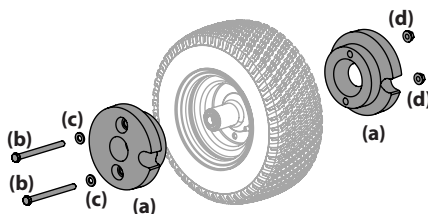

Figure 4-18
2. Remove the two 25-lb weights (a) on each tire by removing the two hex screws (b), flat washers (c) and flange lock nuts (d) that secure them to the rims. See Figure 4-18.